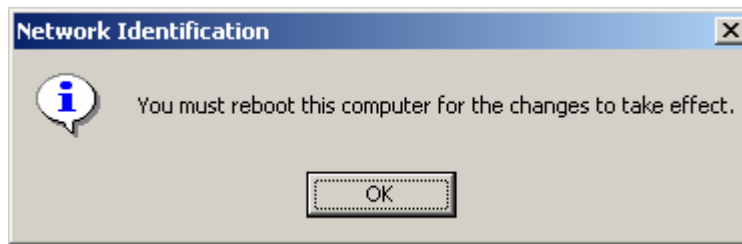

Figure 2-89 [Network Identification] dialog box (2)
- 2) Another [Network Identification] dialog box is displayed to prompt you to restart the computer for the changes to take effect. Click <OK>. See Figure 2-89.